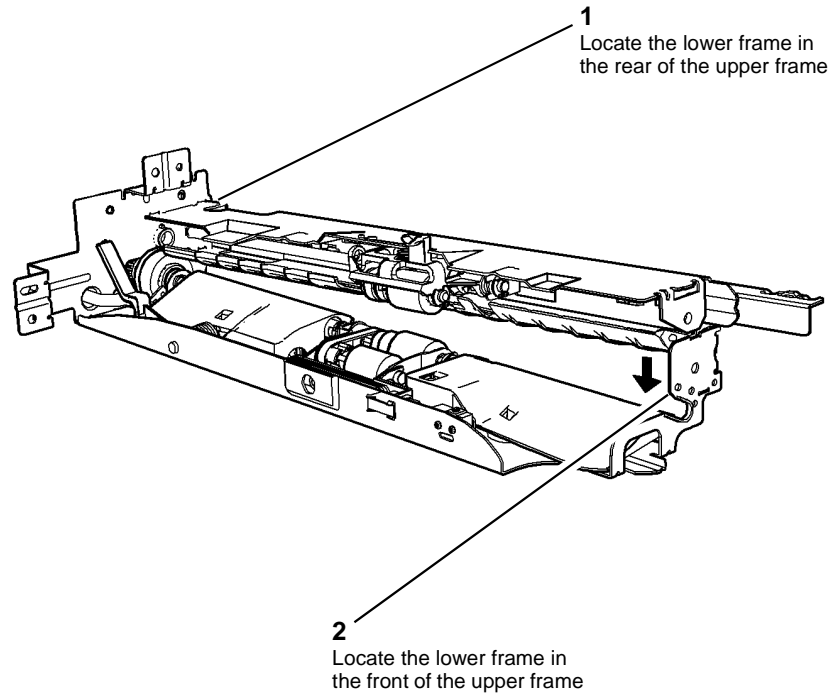

Figure 10 Frame assembly
6. Assemble the two halves of the frame, **Figure 10**.